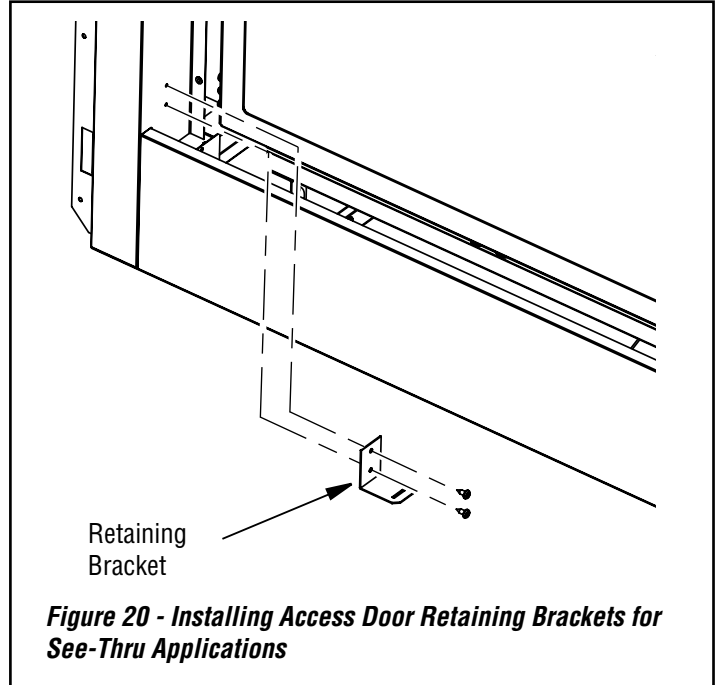

Figure 20 - Installing Access Door Retaining Brackets for See-Thru Applications
1. Screw access door retaining brackets into the inner side face using 2 screws on both the left and right side as shown in **Figure 20**.